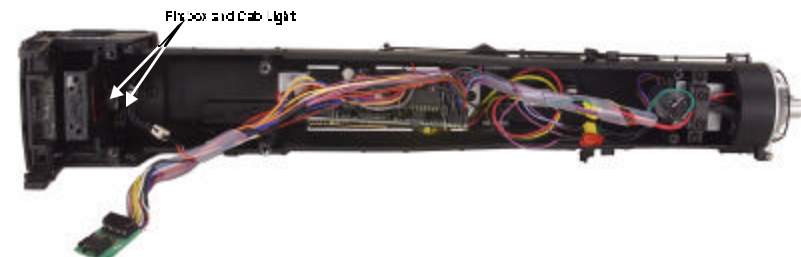

Figure 10. Locations of Firebox and cab lights.
3. Remove the firebox light bulb by pulling it down and out of its bracket (see Fig. 10). You may find it easier to unscrew the bracket from the boiler before removing the bulb. Replace the bulb by pushing it up and into the bracket. You may need to use small pliers to do this.